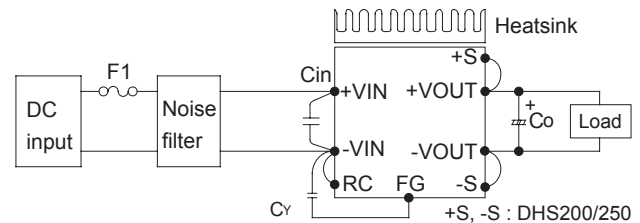

Fig.2.1 Connection for Standard Use
■ In order to use the power supply, it is necessary to wire as shown in Fig.2.1 and external components in table2.1.